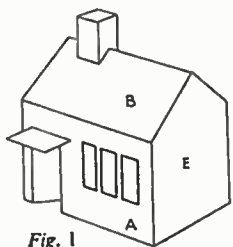
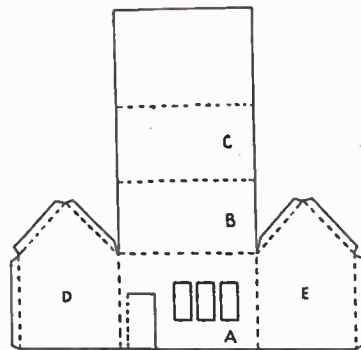

Fig. 1
Fig. 2
There is a fascination in building model houses, and these are easily and quickly made using paper. Often these can be made from hardly more than one piece of paper, by using folding in the right places. Thus, in Fig. 1, the main structure of the house is formed from one piece of paper cut as shown in Fig. 2. The dotted lines indicate where the paper is folded. In assembling the model, (D) and (E), which are the sides of the house, are turned back from the front (A), the flaps on the gable ends being turned down. Parts (B) and (C) fold over to form the ridge, being pasted to the flaps on the gable ends.